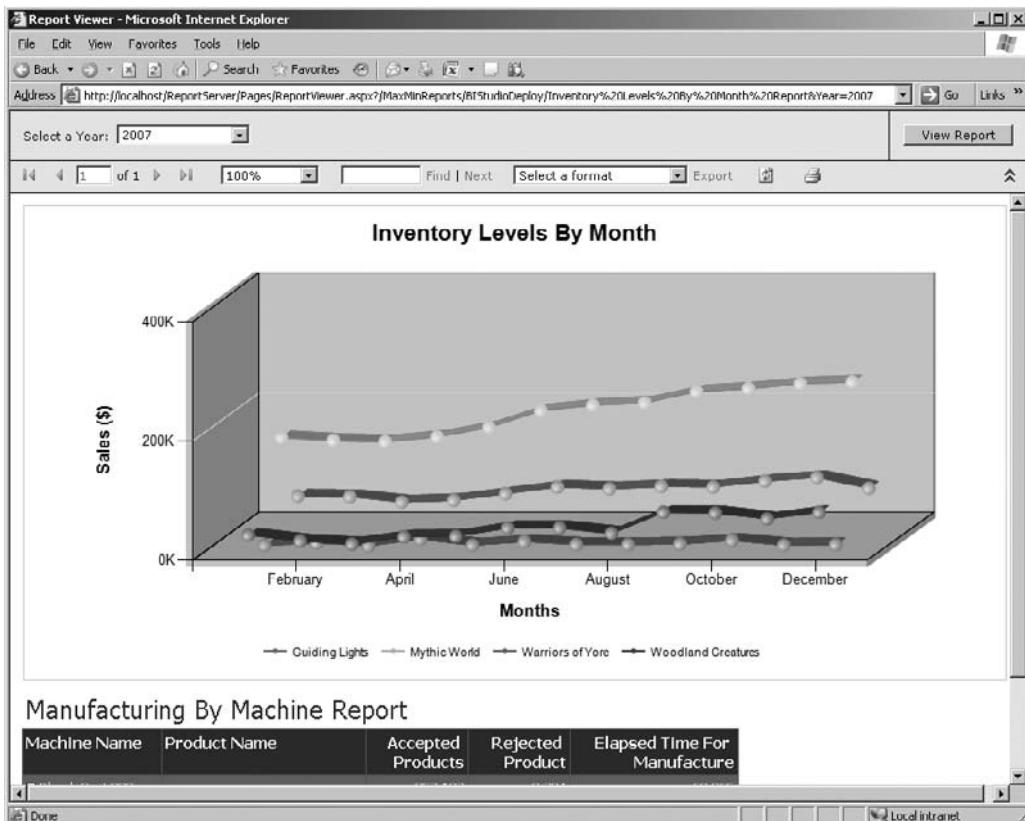

Figure 18-7 A report parameter passed in the URL
2. Click Go. The Inventory Levels By Month Report appears with data for 2007, as shown in Figure 18-7.